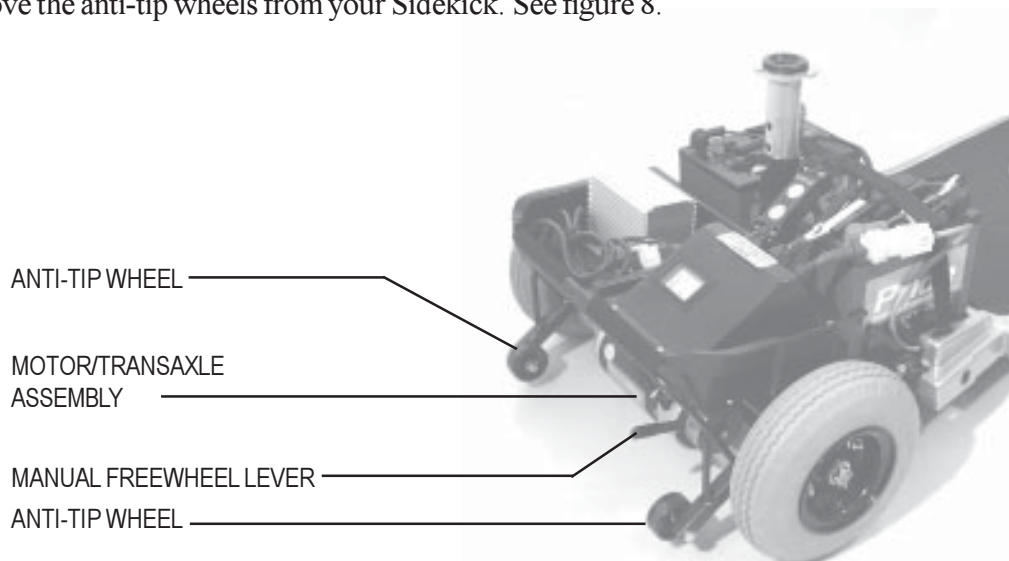

FIGURE 8. REAR SECTION
- The manual freewheel lever is located on the end of the motor/transaxle assembly at the right rear of the Sidekick. See figure 8.
The motor/transaxle assembly is the electromechanical unit that converts the electrical energy of your Sidekick's batteries into the controlled mechanical energy that drives the Sidekick's wheels. See figure 8.
The anti-tip wheels are an integral and important safety feature of your Sidekick. Do not, under any circumstances, remove the anti-tip wheels from your Sidekick. See figure 8.